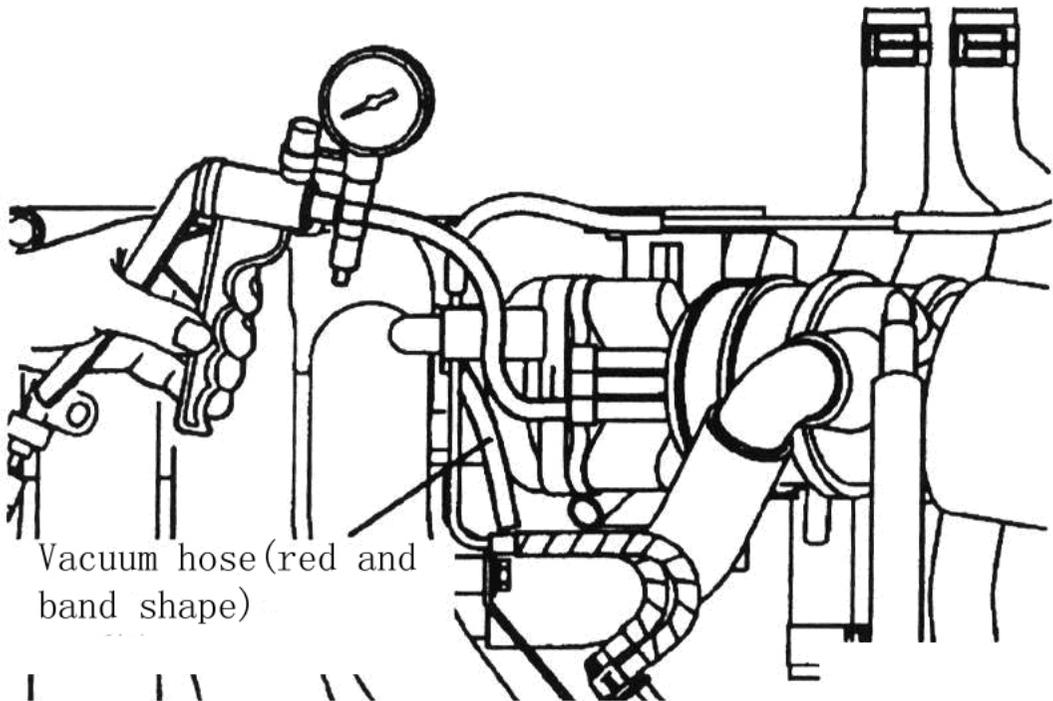

Fig. 10-10
• Disconnect the vacuum hose from the intake manifold purge vacuum nipple and connect a hand vacuum pump to the nipple(Fig.10-10)